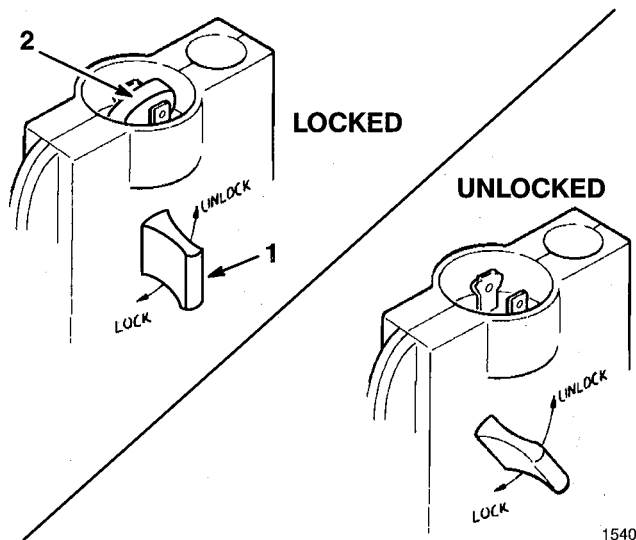

Figure 5
- To unlock snowthrower, push key into hole (Fig. 5). While holding key down, turn key counterclockwise. The interlock tab rotates away from prongs, allowing extension cord to be plugged in (Fig. 5). Do not attempt to remove key when in the unlocked position.